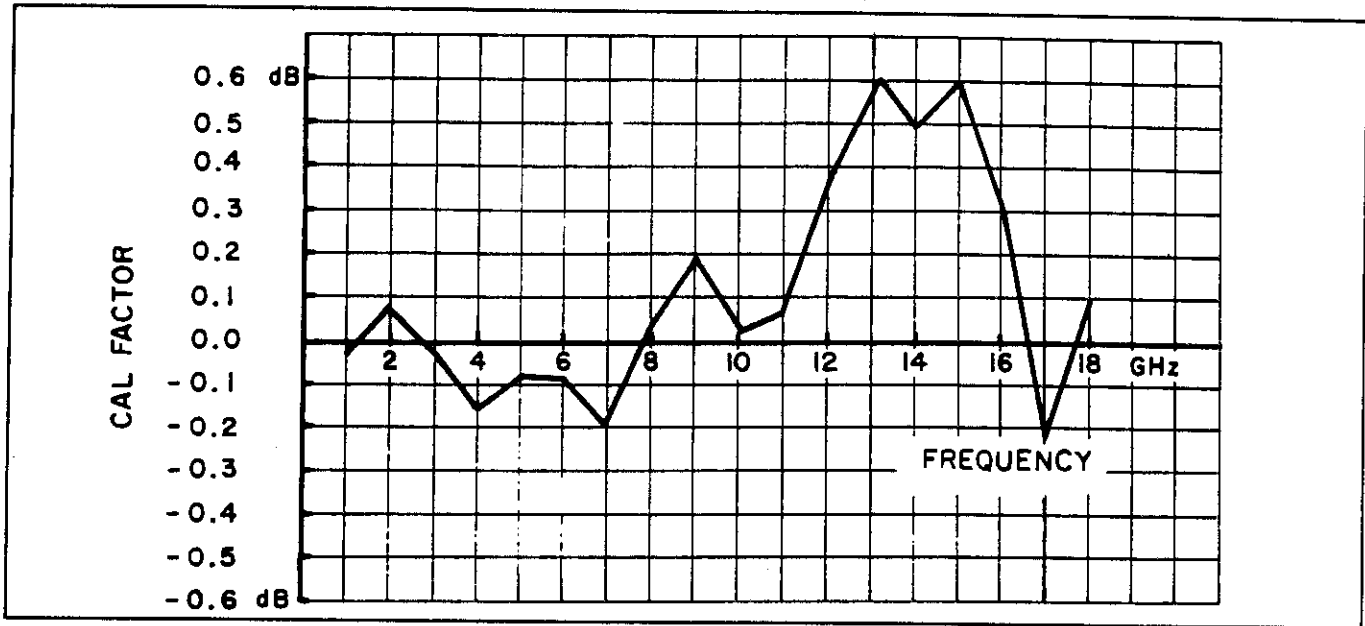

Figure 4-3. Typical High Frequency Sensor Calibration
3. **High Frequency Cal Points.** In addition to linearity data, there are high frequency points as shown in Figure 4-3. Calibration points covering the entire sensor frequency range are supplied with each sensor. Below 2 GHz the response is flat and the frequency cal points need not be entered.
Figure 4-3 shows data for 17 points; however, space for up to 80 points per sensor (sensors 1-6) is provided in the nonvolatile RAM (35 points for sensors 7-20). The frequency cal points need not be in equal frequency increments, however, the entry of data must be done in order of frequency. Generally a cal factor of 0 dB is entered at .01 GHz so that the unit may be operated below the first data point.